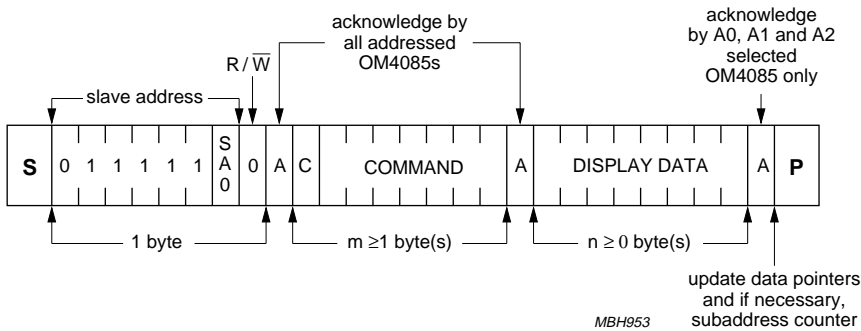

Fig.15 I²C-bus protocol.
The I²C-bus protocol is shown in Fig.15. The sequence is initiated with a START condition (S) from the I²C-bus master which is followed by one of the two OM4085 slave addresses available. All OM4085s with the corresponding SA0 level acknowledge in parallel the slave address but all OM4085s with the alternative SA0 level ignore the whole I²C-bus transfer. After acknowledgement, one or more command bytes (m) follow which define the status of the addressed OM4085s. The last command byte is tagged with a cleared most-significant bit, the continuation bit C. The command bytes are also acknowledged by all addressed OM4085s on the bus.